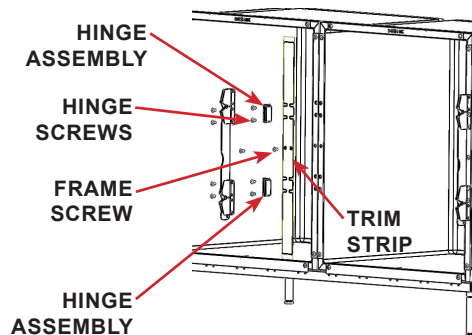

FIGURE 2.29 - Hinge Removal
STEP 19: Remove the screws holding the hinges and the center frame screw between the hinge assemblies from the recently added cage. See FIGURE 2.29
STEP 20: Install the trim strip underneath the hinge assemblies and thread the center frame screws, do NOT fully tighten. See FIGURE 2.29